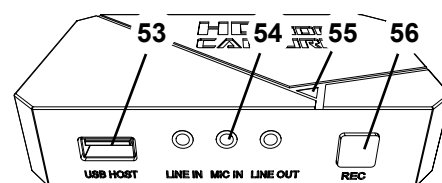

Fig. 35
⇒ Press the REC button (56, Fig. 35) on the HDMI-Video-Recorder.
- ◆ The signal LED (55, Fig. 35) turns red.
⇒ Plug the microphone cable of the headset (pink plug) into the MIC IN connection (54, Fig. 35) (pink mark).